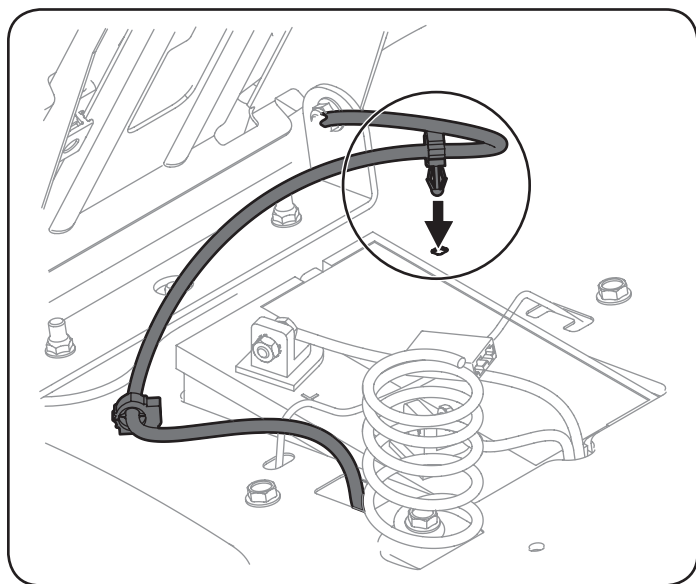

Figure 4
4. Using the harness clip attached to the harness, secure the excess wire to the fender by snapping the harness clip in place as shown in Figure 4.